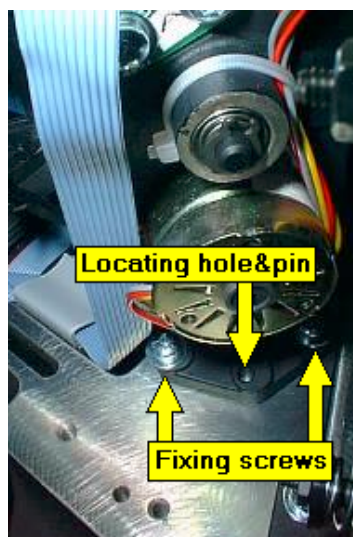

Figure 107 Fixing the excitation polarizer wheel in position
5. Fix the excitation polarizer wheel into the excitation filter wheel location by first locating the hole on the bottom of the filter bracket with the pin in the baseplate, then by tightening the two fixing screws, as shown in Figure 107.